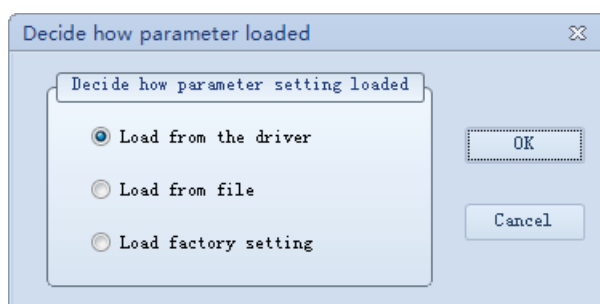

Fig. 3-1 Parameter loading method
1. Click “Parameter” to open a dialog box, as shown in Fig. 3-1.